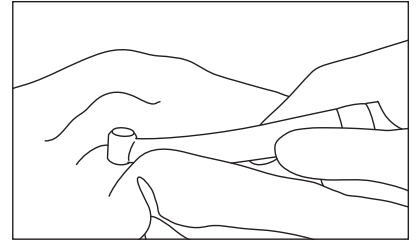

Fig. 7
3) Wipe the exterior of the handpiece clean using a cloth moistened with disinfectant or ethanol with a concentration of 60-90% (Fig. 7).